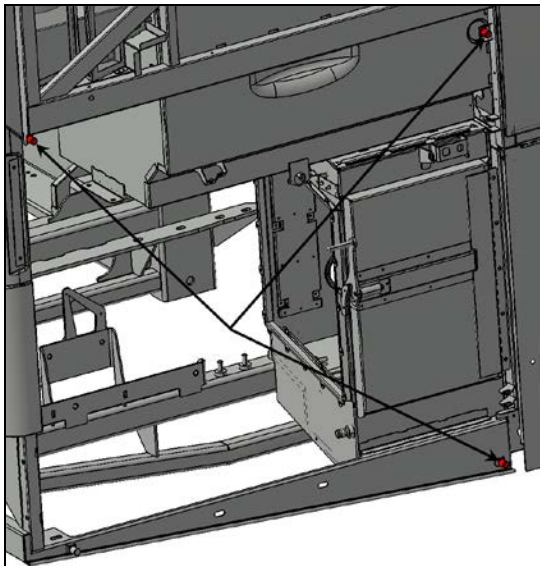
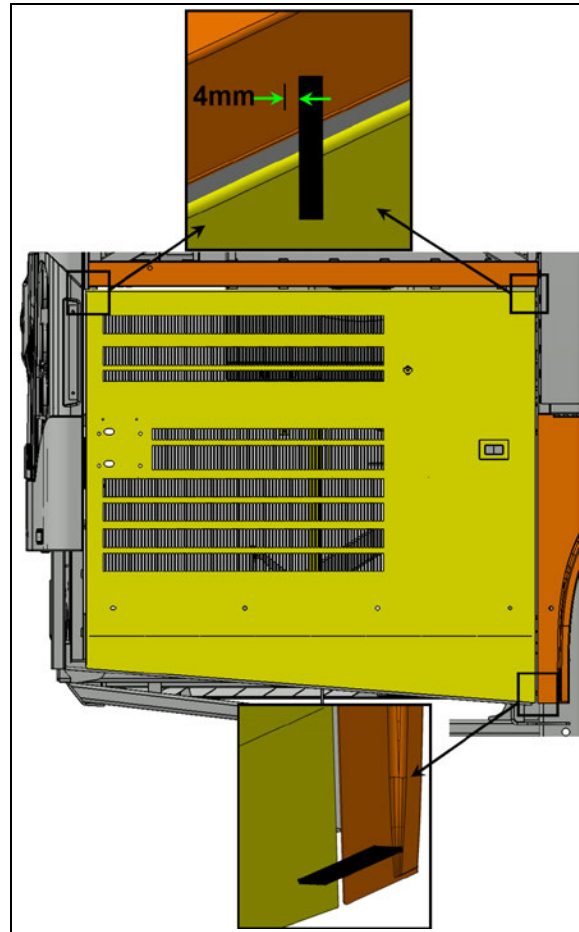

FIGURE 62
FIGURE 63
19. Screw in or out the two upper stoppers so that the upper part of the door exceeds the horizontal member by $5/32$ " to $3/16$ " (4mm to 5mm) (see FIGURE 62 & FIGURE 63).